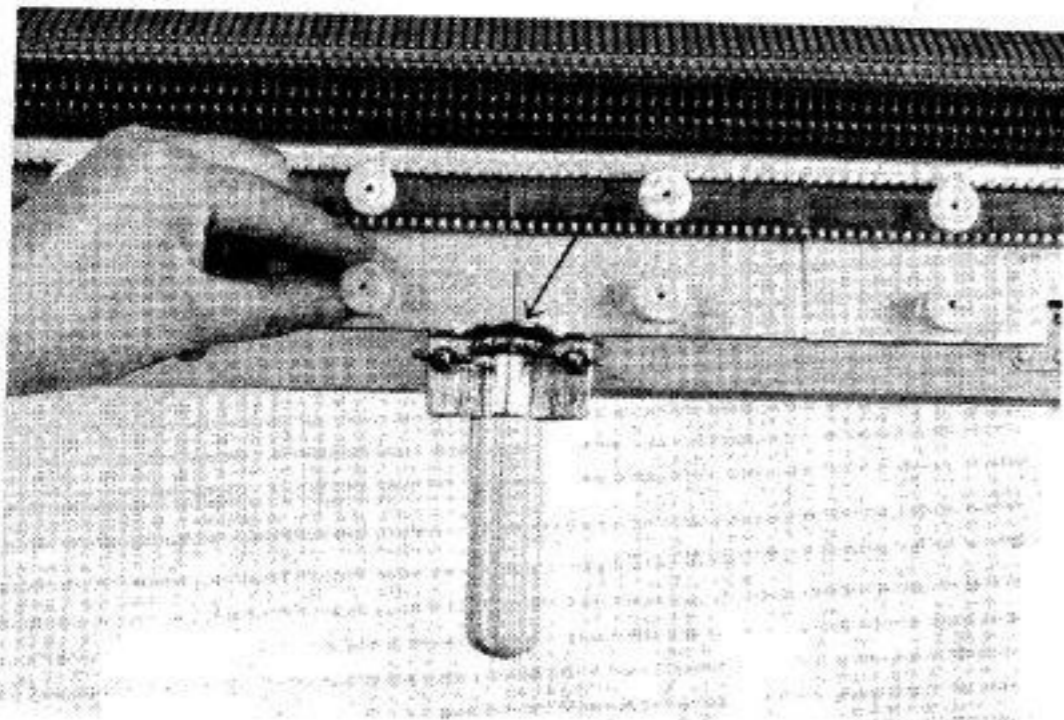

Fig. 7
- (3) Slacken all the V. P. K. unit Fixing Nuts (See Fig. 7) so that each unit can be moved sideways. Set one of the centre units to a position where the hooks of the needles which you have brought forward, are opposite the centre of the plastic teeth of the V. P. K. unit. (See Fig. 8) Now tighten the Fixing Nut of this unit.
- (4) After positioning the first unit, slide the adjacent units at each side firmly against this unit and tighten their Fixing Nuts. Continue to move the remaining units inwards until all the units are fastened in the correct position. Lower the Attachment by releasing the Locking Screws.